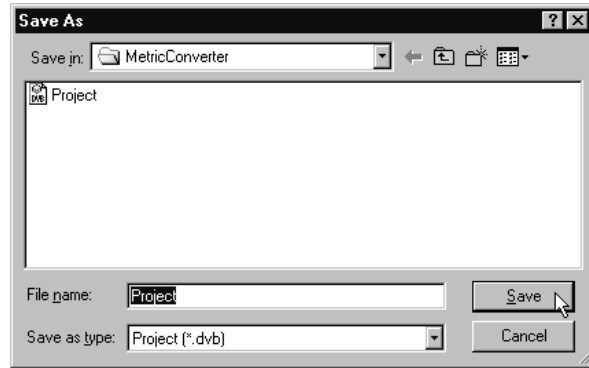

Figure 1.12 The Save As dialog box, ready to save your project to the .DVB file of your choice
1. Choose File → Save Global1. The Save As dialog box shown in Figure 1.12 appears. The controls in this dialog box will be familiar to you; they are much the same as those found in the Save As dialog boxes of other applications, including AutoCAD itself.